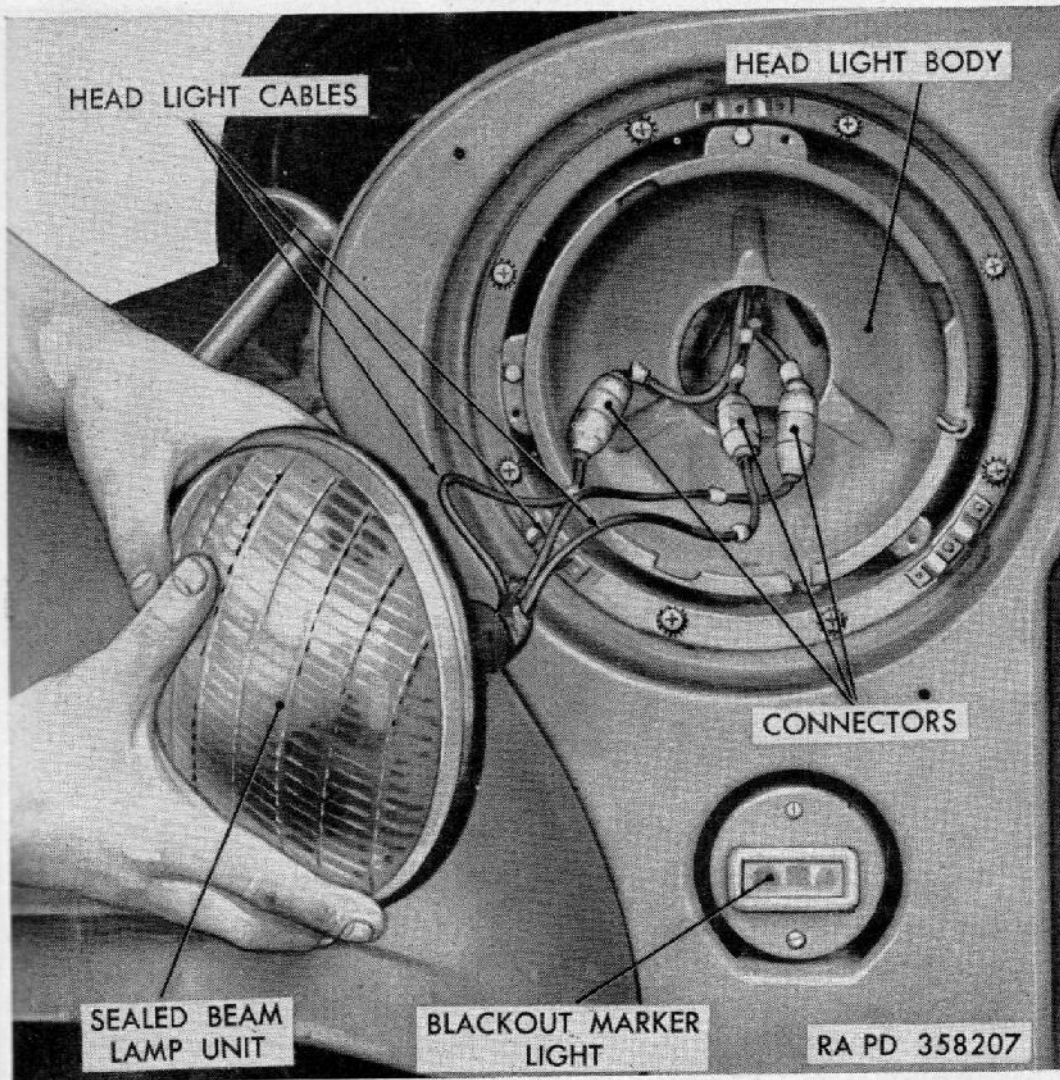
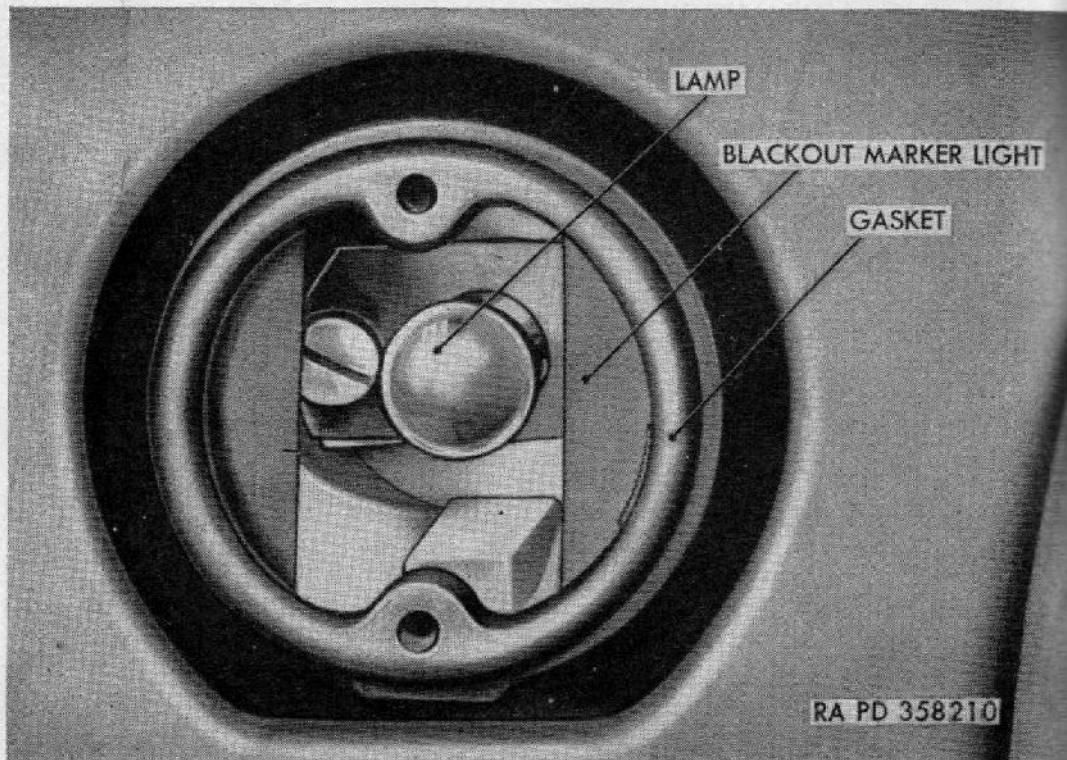

Figure 82. Removing sealed-beam lamp unit.
Figure 85. Blackout marker light with blackout marker light door removed.
- (6) *Blackout marker lights* (fig. 85). The blackout marker lights are mounted in either side of the radiator grille below the headlights. These lights are controlled by the light switch and show a diffused, low intensity beam when on.
- (c) Pull sealed-beam lamps unit from headlight body (fig. 82). Disengage connectors from clips behind headlight body. Pull connectors (fig. 82) into open and disconnect headlight cables at connectors. Remove sealed-beam lamp unit.
- (2) *Installation.*
- (a) Connect connectors on headlight cables in headlight body (fig. 82) to connector on new sealed-beam lamp unit. Engage connectors in clips behind headlight body.
(1) *Removal.* Remove two screws securing blackout marker light door to blackout marker light (fig. 82). Remove blackout marker light door and waterproof gasket. Push in on lamp (fig. 85) and turn counterclockwise to remove lamp from socket.
(2) *Installation.* Insert lamp (fig. 85) into socket and turn clockwise to secure. Install waterproof gasket and door of blackout marker light (fig. 82) and secure with two screws.